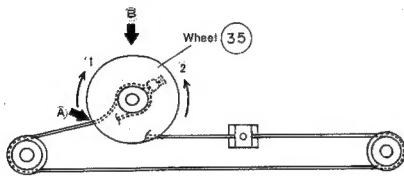

Figure 13
2. Place the Wheel (35) to the Shaft (36), and rotate the wheel clockwise until the starting point of the wire (slit on pulley) comes to the Point A (Fig. 13).